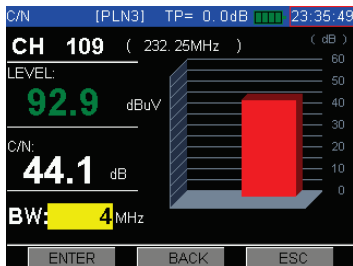

Figure 4-59
Press **F2** (BW) and **DECN** can edit and input new bandwidth value. As show in the Figure 4-59.